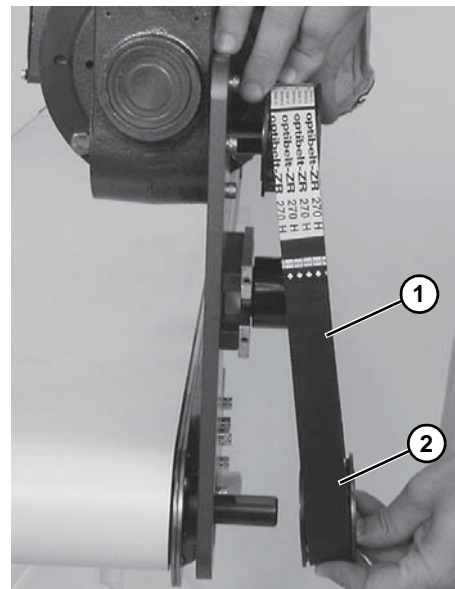

Figure 15
3. Remove timing belt (**Figure 15, item 1**).
If timing belt does not slide over pulley flange, loosen driven pulley taper-lock screws (Figure 15, item 2) and remove pulley with belt (Figure 15, item 1). For re-installation, see steps 6 through 8 on page 9.